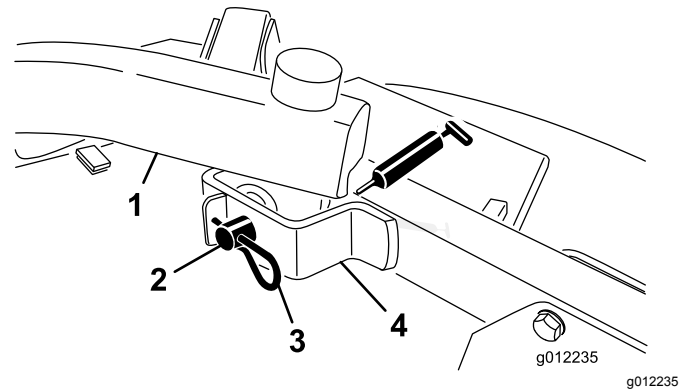

Figure 20
- Front-lift arm pivots (Figure 20)